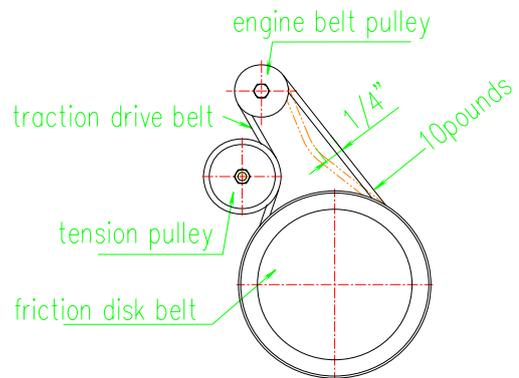

FIG 27
- 6.10.1 Adjust the belt with 10 pounds of pressure. If the belt moves 1/4", it shows the belt is all right, or else you should adjust the belt. (FIG 27)